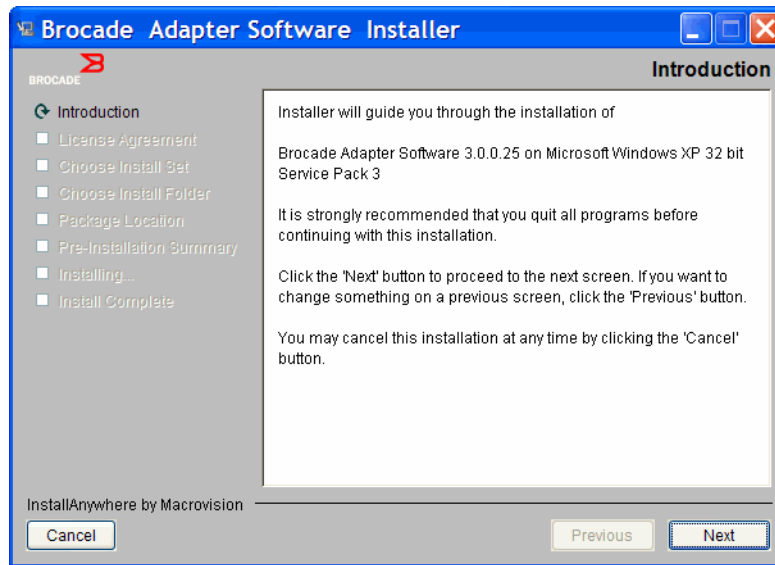

FIGURE 11 Brocade Adapter Installer Introduction screen
3. When the Brocade Software Installer **Introduction** screen displays (Figure 11), read the recommendations and instructions, then click **Next**.